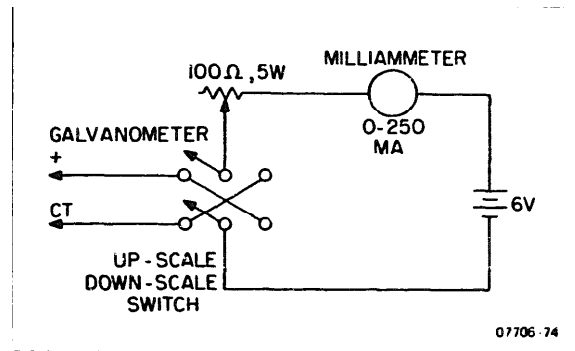

Figure 5-22. Checking Galvanometer Sensitivity
h. Check the galvanometer coil with the circuit in the following figure (Figure 5-22)